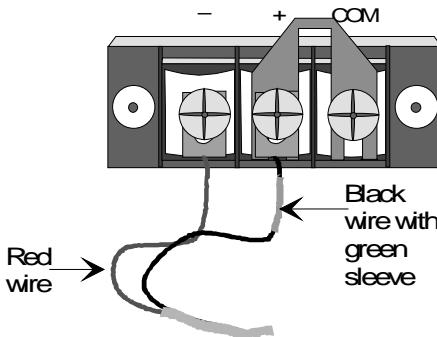

Figure 2-9. DID Power Cord Connected to Power Supply
- Connect the black wire with the green sleeve to the "+" contact and tighten the contact screw (Figure 2-9).
- Connect the red wire to the "-" contact and tighten the contact screw (Figure 2-9).